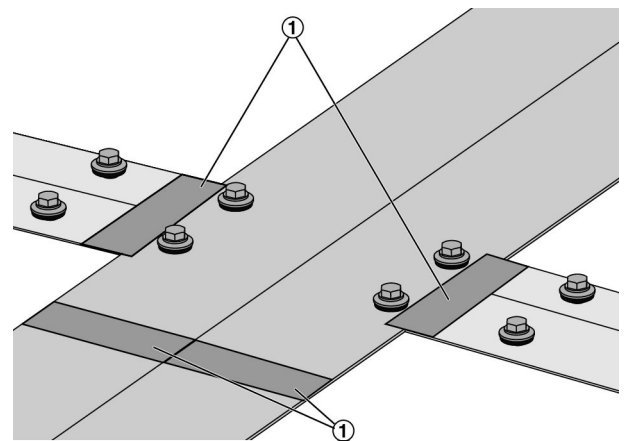

Fig. 21: Sealing the joints
- 2 ▶ Seal the joints (Fig. 21 /1) between the cover strips with the supplied adhesive strips (100 x 40 mm).